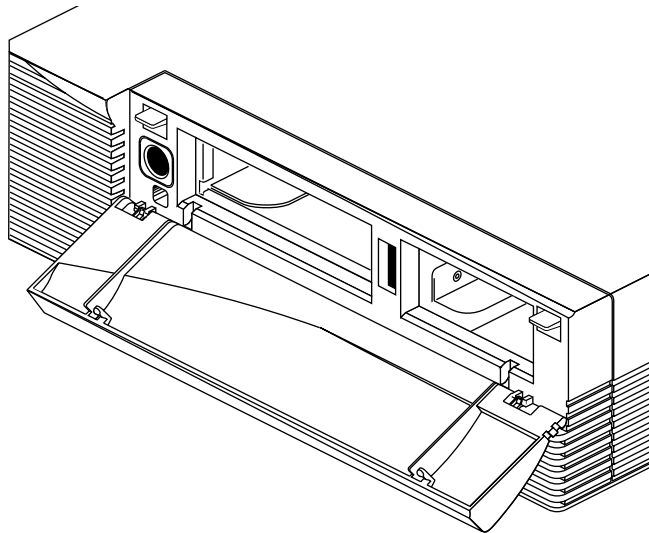

Figure B-1 Opening the Front Cover of the Indigo² IMPACT Workstation
- Open the cover on the front of the Indigo² IMPACT by snapping it away from the top edge of the chassis and tipping it down, as shown in Figure B-1.